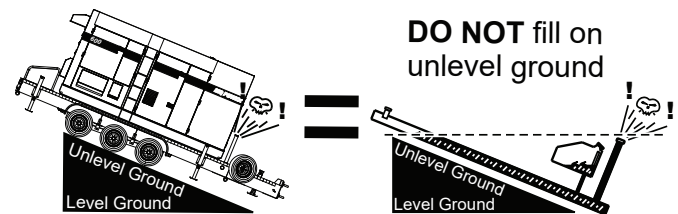

Figure 28. Only Fill On Level Ground
1. **Level the tanks.** Make sure fuel tanks are level with the ground. Failure to do so will cause fuel to spill from the tank before reaching full capacity (Figure 28).